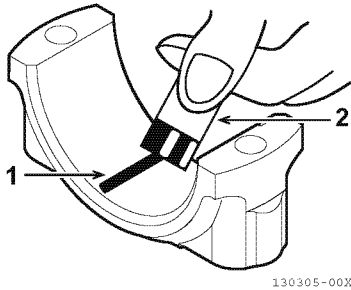

Figure 6-62
- 6- Compare the width of the flattened PLASTIGAGE to the graduation marks on the package (1, **Figure 6-62**). The mark that most closely matches the width of the flattened PLASTIGAGE will indicate the bearing oil clearance.